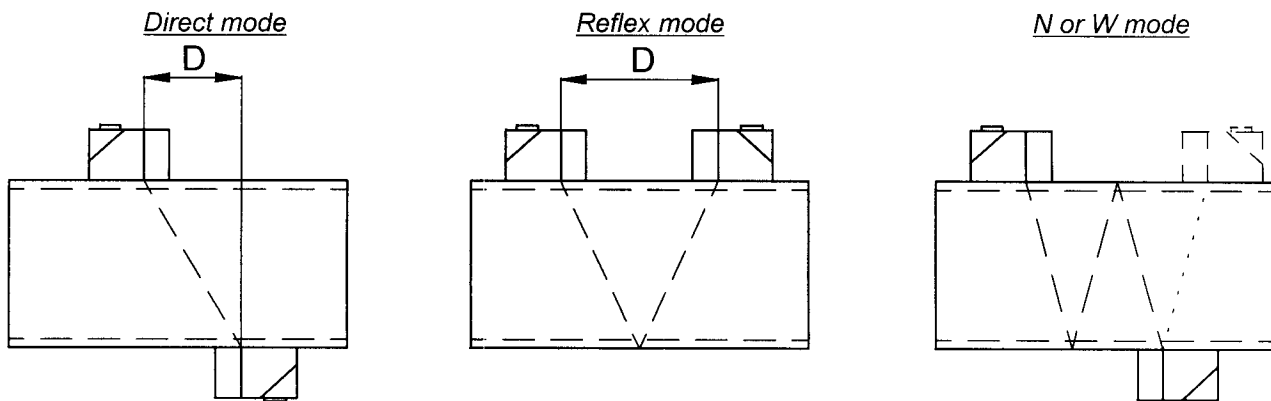

Figure 1
- ⇒ For both modes, distance **D** (cf. *fig. 1*) is measured from the marks engraved on the probe.